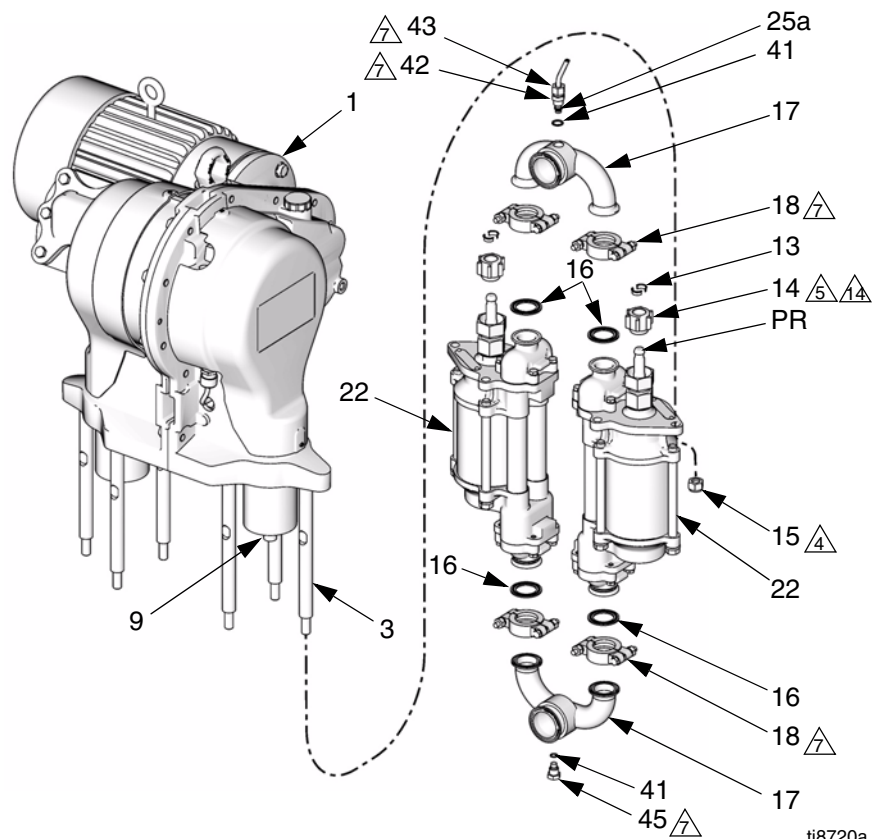

FIG. 4: Fluid Section
9. See FIG. 4. At the pump outlet manifold (17), loosen the transducer nut (43) and unscrew the adapter (42) from the manifold. Remove the transducer (25a) from the manifold port. Remove the existing o-ring (41) and discard.
10. Loosen the clamps (18) at the inlet and outlet manifolds (17). Remove the manifolds and gaskets (16).
11. Remove the coupling nut (14) and collars (13) from the piston rods (PR).
12. Unscrew the locknuts (15). Remove the lower (22). To repair the lower, see manual 311690.
1. See FIG. 4. Install the coupling nut (14) on the lower's piston rod (PR).
2. Orient the lower (22) to the gear reducer (GR) as shown. Position the lower on the tie rods (3). Screw the tie rod locknuts (15) onto the tie rods handtight.
3. Assemble the inlet and outlet manifolds (17) to the lower, using new gaskets (16). Torque the clamps (18) to 15-20 ft-lb (21-27 N•m).
4. Torque the locknuts (15) to 50-60 ft-lb (68-80 N•m).
5. Install a new black o-ring (41) on the transducer (25a).
6. Insert the transducer into the outlet manifold (17). Torque the adapter (42) first, then the nut (43) to 15-20 ft-lb (21-27 N•m).
7. Install a black o-ring (41) on the plug (45). Screw the plug into the inlet manifold (17) and torque to 15-20 ft-lb (21-27 N•m).
8. Ensure that the collars (13) are in place in the coupling nut (14).
9. Place a 3/4 in. wrench on the flats of the slider piston (9), to keep it from turning when you are tightening the coupling nut (14). Orient the wrench so it is braced against one of the tie rods (3) or the pump stand. Tighten the coupling nut (14) onto the slider piston (9) and torque to 75-80 ft-lb (102-108 N•m).